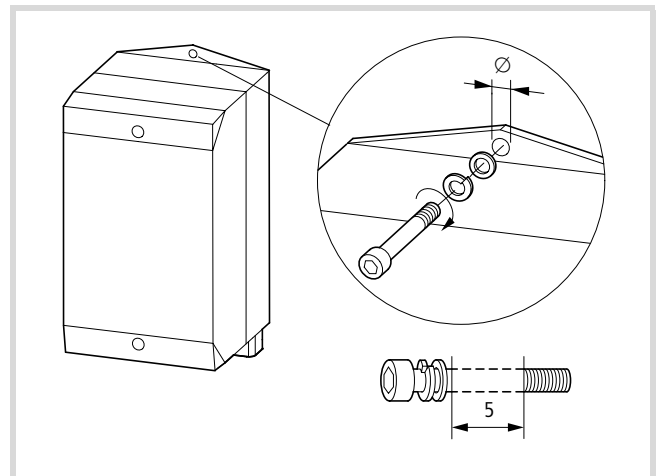

Figure 39: Mounting
- ▶ Secure the bottom section with two M5 screws (see fig. 39).